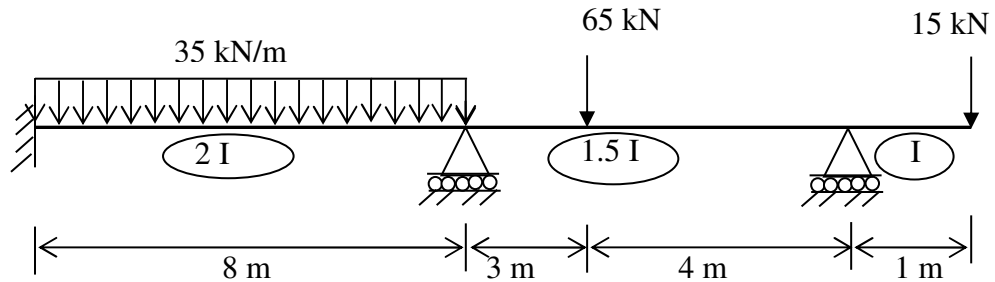

Fig.5
7. Analyse the continuous beam shown in **Fig.5**, using 'Stiffness Method', and draw shear force and bending moment diagrams. Locate and find the distances of the points of contra-flexure from supports. Draw elastic curve.